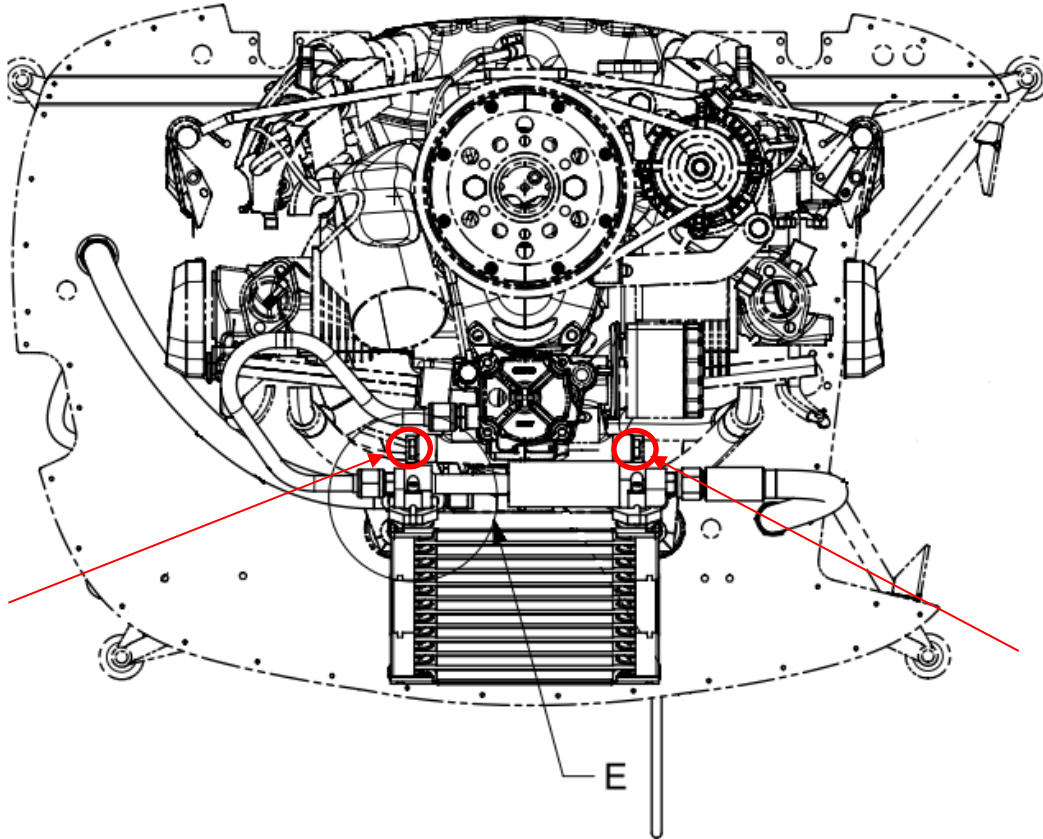

Figure 1 Overview Engine
- 1.8.3 Remove the old adapter weld assy, refer to Figure 1 and keep the bolts and washers.
- 1.8.5 Secure the highlighted R/H bolt, refer to Figure 1, with screw locking adhesive LOCTITE 243 (GS513007).
- 1.8.7 Secure the highlighted L/H bolt, refer to Figure 1, with screw locking adhesive LOCTITE 243 (GS513007).